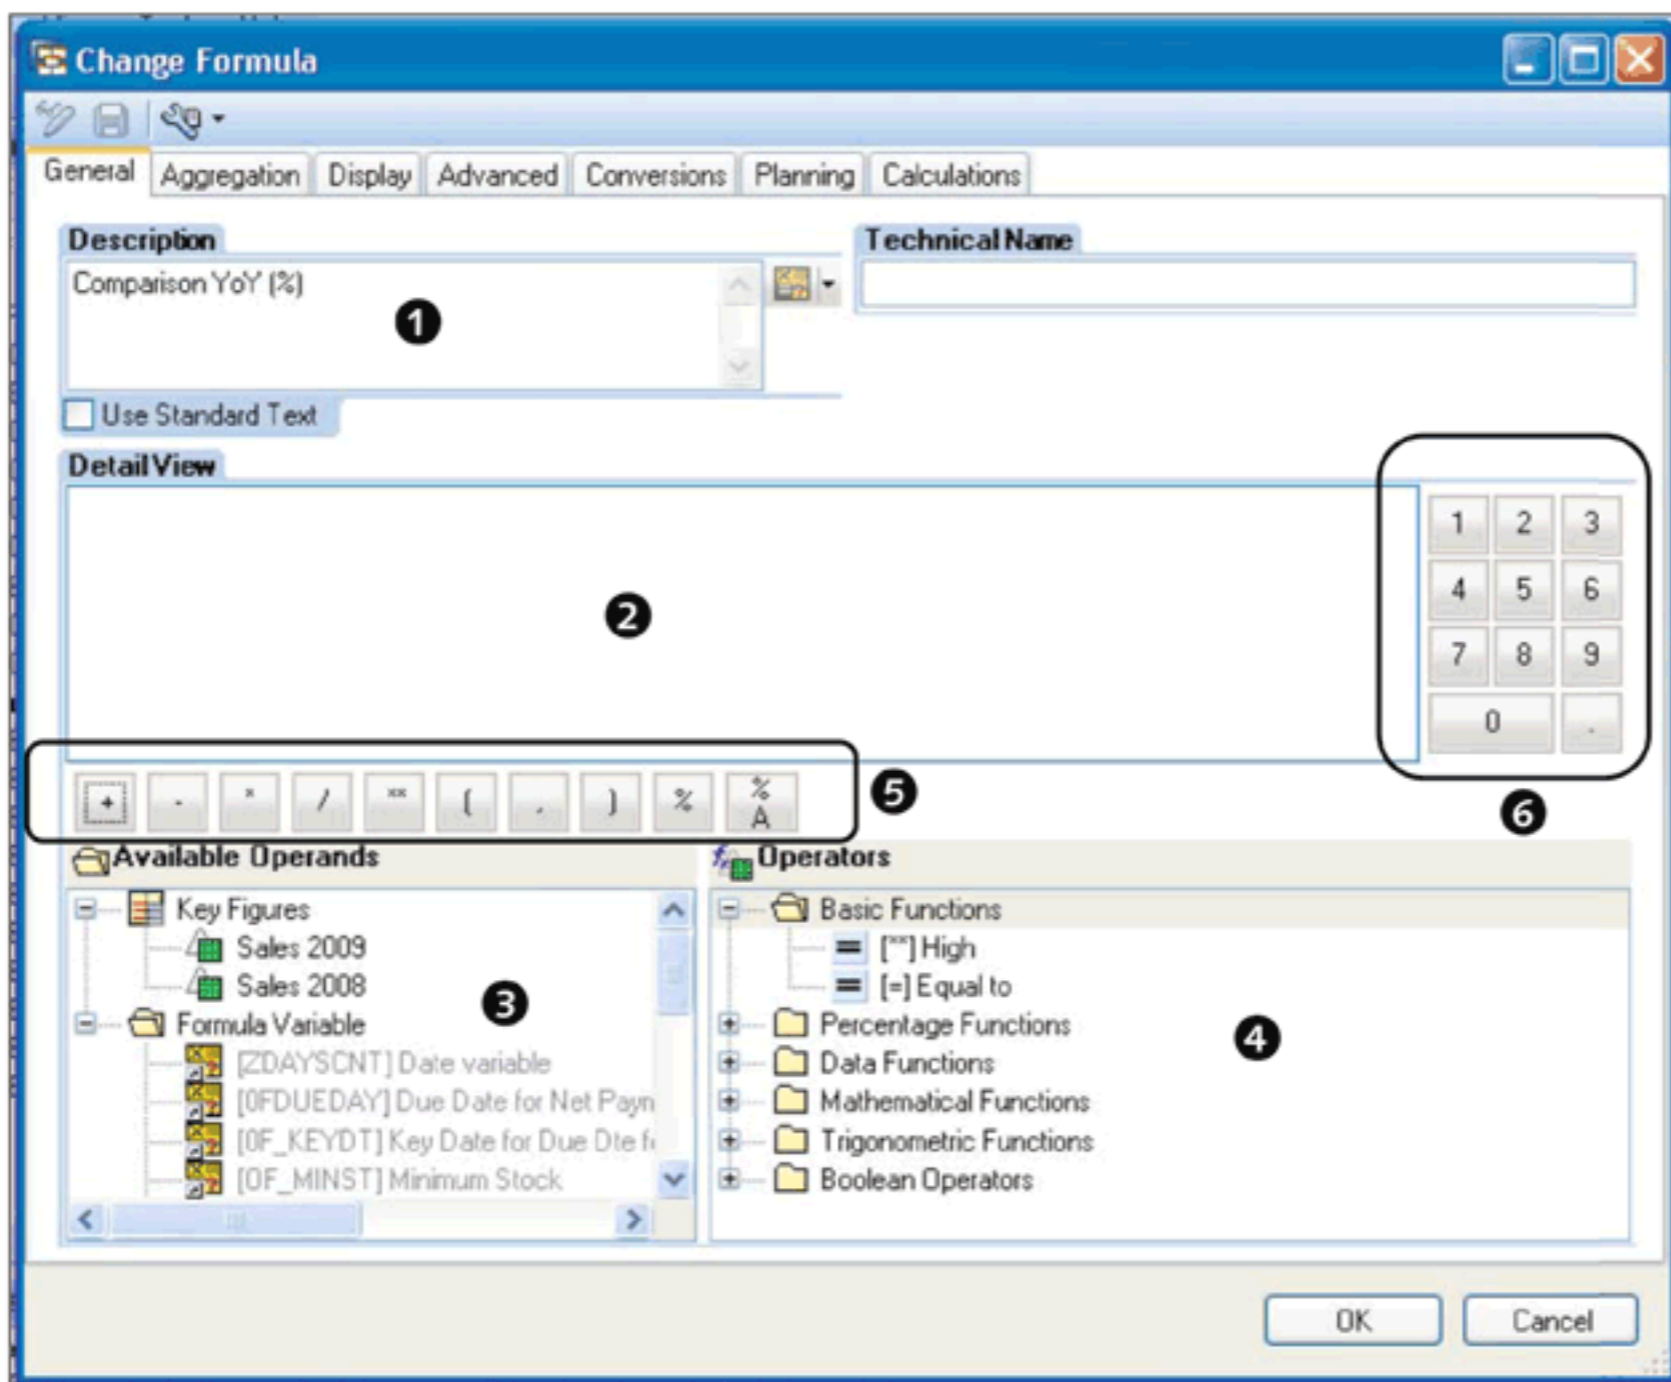

Figure 9.59 Formula Editor
This action creates a new formula component in the key figure structure. To define the calculation for this formula, double-click or select **EDIT** from the context menu (❷). The formula editor screen appears in the pop-up where you can define the logic (see Figure 9.59).
Maintain the DESCRIPTION of the component on this screen (❶ of Figure 9.59).